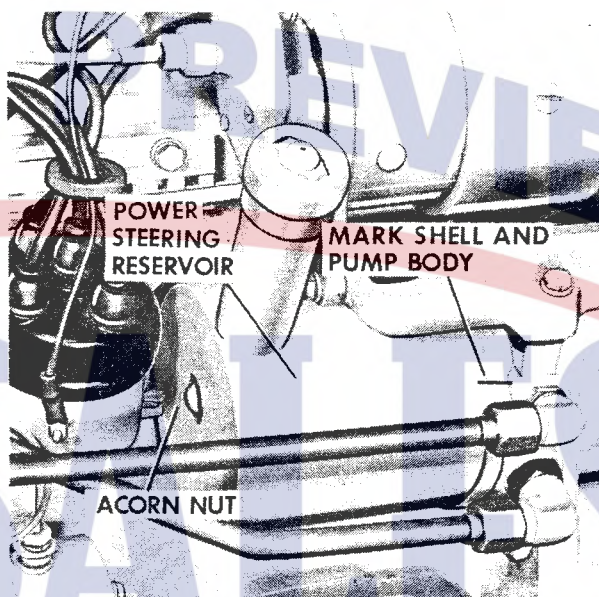

Figure 11
A replaceable filter element is provided in the reservoir body, Figure 11. Replace the element every 1000 hours of operation (more often in severe dust conditions).
**IMPORTANT** Before removing steering reservoir shell, mark both shell and pump body, Figure 11 - When re-installing shell, make sure marks are aligned. This is to insure a good seal and correct oil level reading on dipstick.